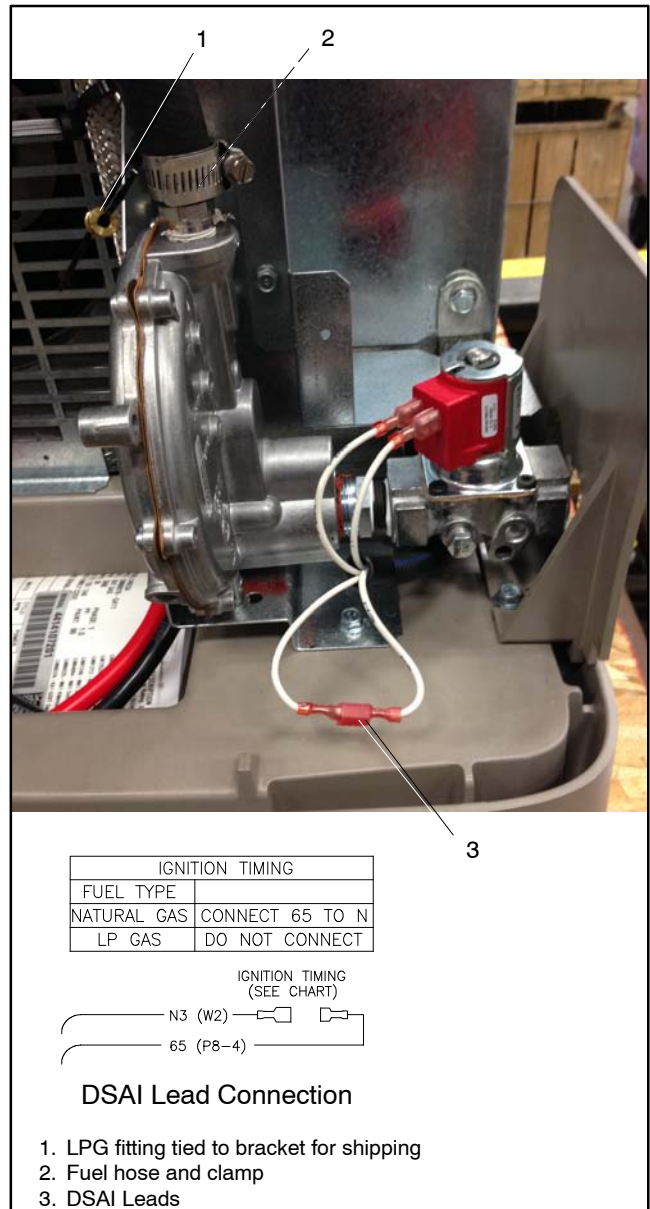

Figure 1-11 Fuel System, As Shipped (Model 14RESA/RESAL built after June 26, 2014)
Model 14RESA/RESAL generators built June 26, 2014, or later are not equipped with the fuel block. These units use fuel orifice fittings installed in the hose fitting at the fuel regulator. See Figure 1-11 and use the instructions in this section for fuel conversion.
The unit is typically shipped set up for natural gas, with the LPG fitting tied near the fuel solenoid valve. To convert to LPG, remove the NG fitting and install the LPG fitting as described below. See Figure 1-11 for the fuel system component locations.
5. Remove the hose clamp and fuel hose from the hose fitting. See Figure 1-11.
located near the fuel solenoid valve. See Figure 1-11.